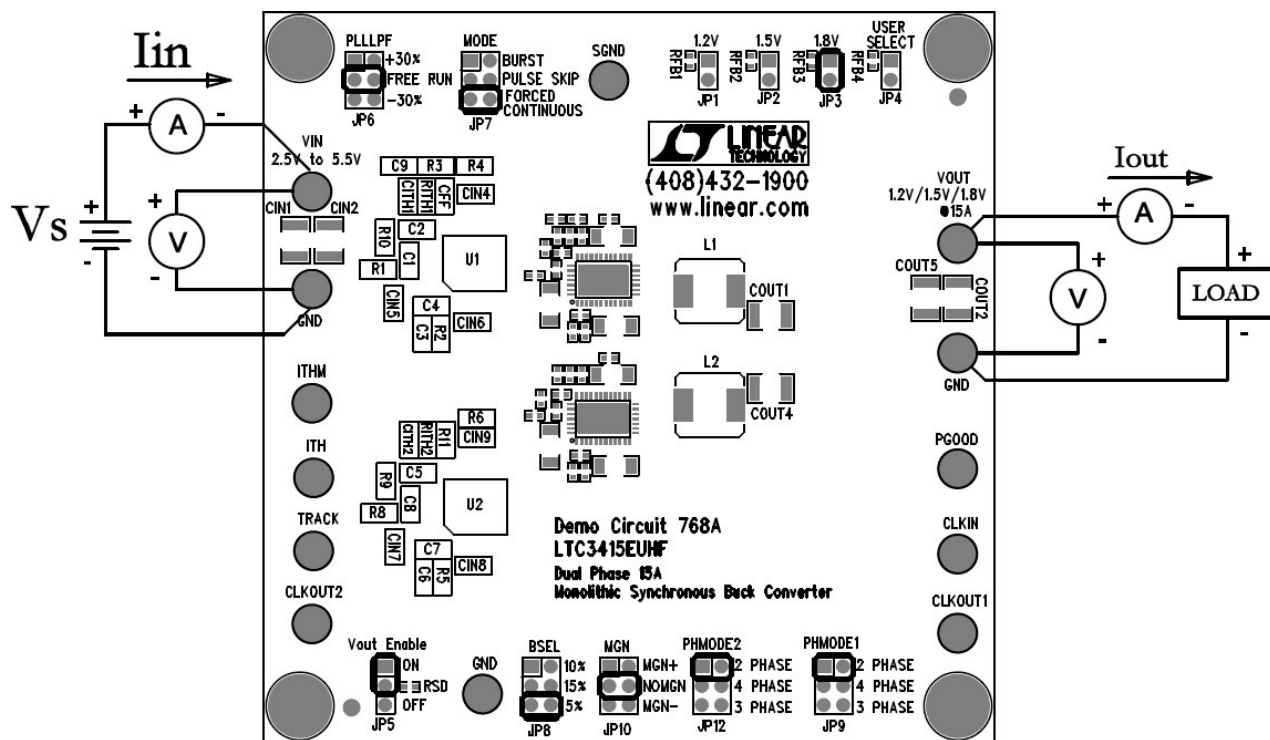

Figure 1. Proper Measurement Equipment Setup
Demonstration Circuit 768 is easy to set up to evaluate the performance of the LTC3415. For proper measurement equipment configuration, set up the circuit according to the diagram in **Figure 1**. Before proceeding to test, make sure the jumper shunts are in the appropriate header according to the legend in **Figure 1**, except for one exception: insert jumper JP5 shunt into the off position, which connects the RUN pin to ground (GND), and thus, shuts down the circuit.
1. With the DC768 set up according to the proper measurement and equipment in **Figure 1**, apply 3.3V at Vin (Do not hot-plug Vin or increase Vin over the rated maximum supply voltage of 5.5V, or the part may be damaged.). Measure Vout; it should read 0V. If desired, one can measure the shutdown supply current at this point. The supply current will be approximately 400 μ A, or less, in shutdown.